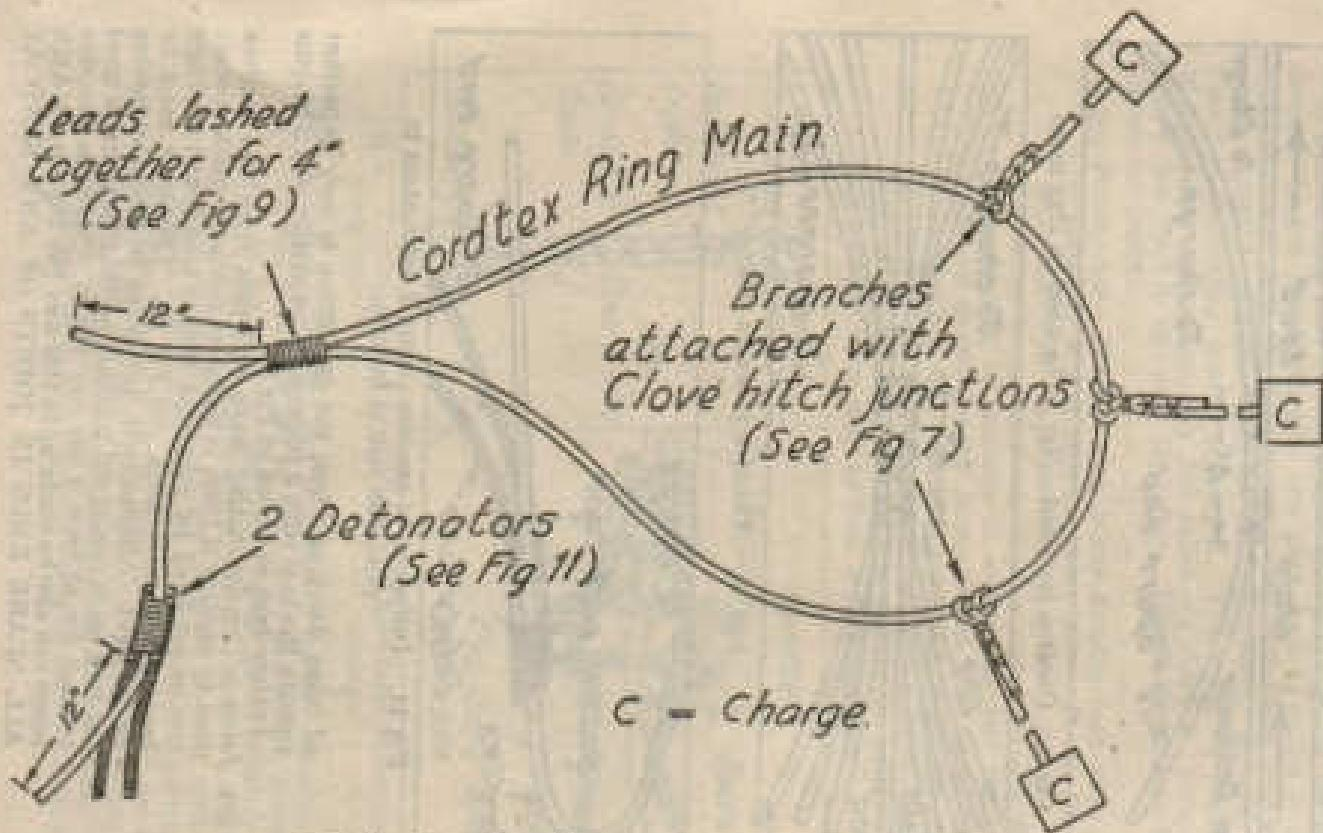

Fig 12. Simple cordtex or primacord ring main
- (e) Ring mains.—The most efficient method of firing more than one charge simultaneously is by the use of a ring main made up with detonating fuses (see Fig 12). The main is initiated with two detonators and two lengths of safety fuse as already described.